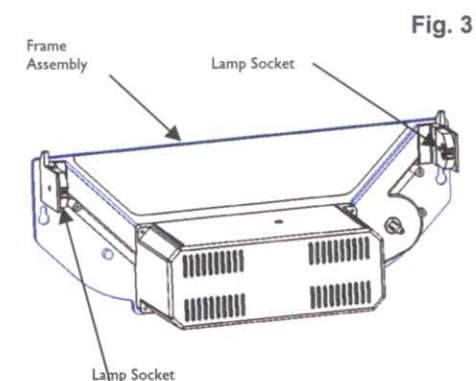

Fig. 3
3. Insert new lamp and twist lamp 90° (see page 5, Fig. 3).
1. Remove the ultraviolet lamp from the box. insert the lamp into the lamp sockets by aligning the pins of the lamp with the light socket and twist 90 degrees. (Fig. 3)